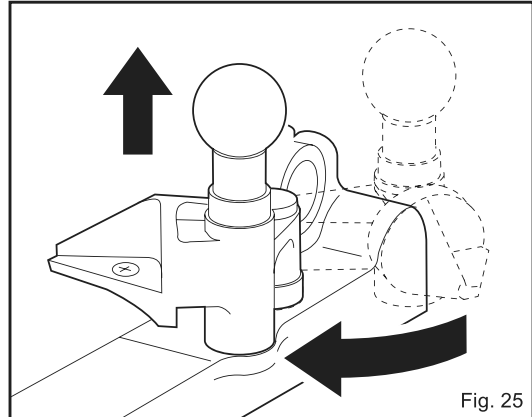

Fig. 25
- (1) Lift the die head and pipe cutter out of the way.
- (2) Lift up the set knob on the reamer and put the reamer in the chamfering position. (Fig. 25)